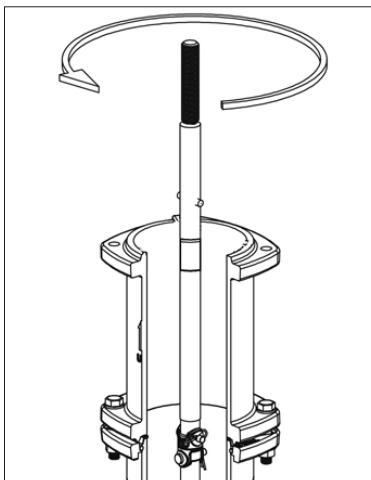

Fig. 7G
7. To remove the valve seat ring (F51) and main valve assembly, slide the AVK seat wrench (fig. 7G) over the upper stem rod (F16) and engage the seat removal pin. Turn the tool counterclockwise (approximately 6 turns), until the valve seat ring has disengaged from the drain ring.
NOTE: For deeper buries, an optional AVK seat wrench alignment tool is available (see fig. 7G).